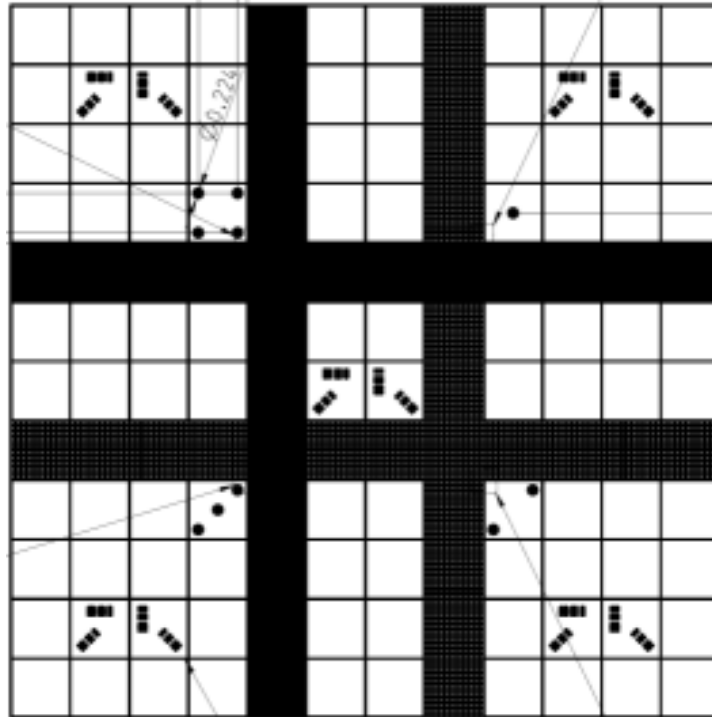

Fig. 2 Calibration objective
- Calibration objectives with other samples than shown in Fig. 2 shall not be used. The cap with the calibration sample can be obtained separately under SAP-No. 420639-9900-700.